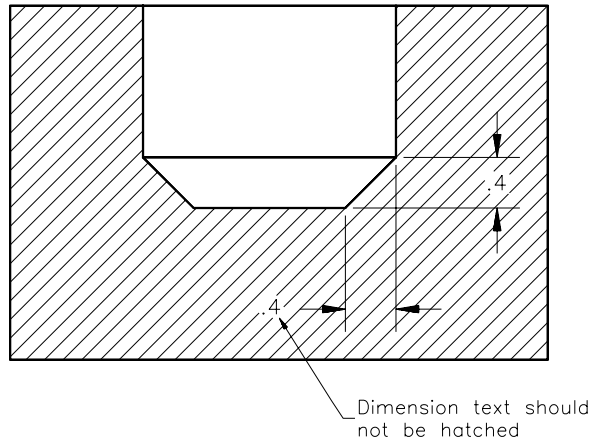

Figure 22-41 *Dimension text should not be hatched*
15. If the dimension of a feature appears in a section view, you must not hatch the dimension text (Figure 22-41). You can accomplish it by selecting the dimension object when defining the hatch boundary. You can also accomplish this by drawing a rectangle around the dimension text and then hatching the area after excluding the rectangle from the hatch boundary. (You can also use the **EXPLODE** command to explode the dimension and